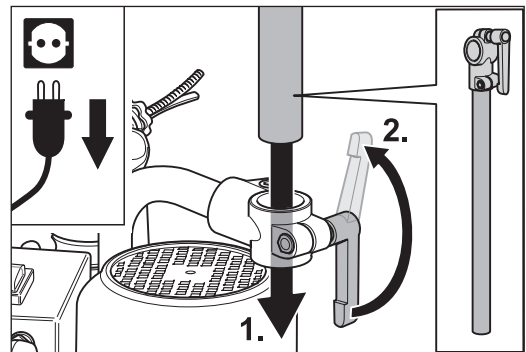

Fig. 9 Inserting the extension into the clamping piece of the pipe bend.
- 1 Insert the extension into the clamping piece of the pipe bend and tighten the clamping lever firmly (Fig. 9).